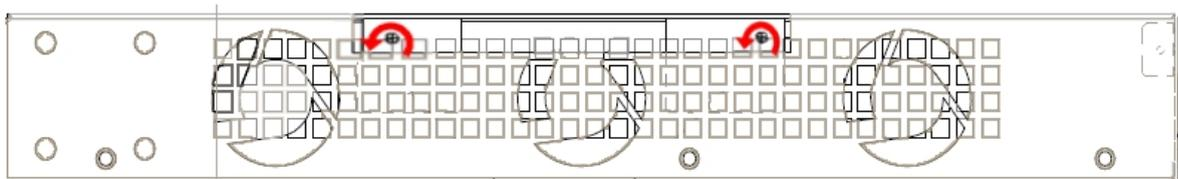

Fig. 9: **Remove the flap screws from the top panel**
- (1) Switch off the device and remove the cables, as described in section *Disconnecting* on page 17.
- (2) Remove the device from the workplace and place it in a stable, safe location where it can be easily accessed and handled.
- (3) Remove the screws from the side panel to be able to dismantle the flap that gives access to the expansion cards. Please see *Fig. 9* on page 8.
- (4) Once the screws have been removed, slide the flap and lift it (making sure no grooves attach the flap to the top panel). Place it in a safe location.
- (5) Find the place where the expansion board needs to be located. This slot has a set of elevated connectors with gold contacts and a pair of standoffs.